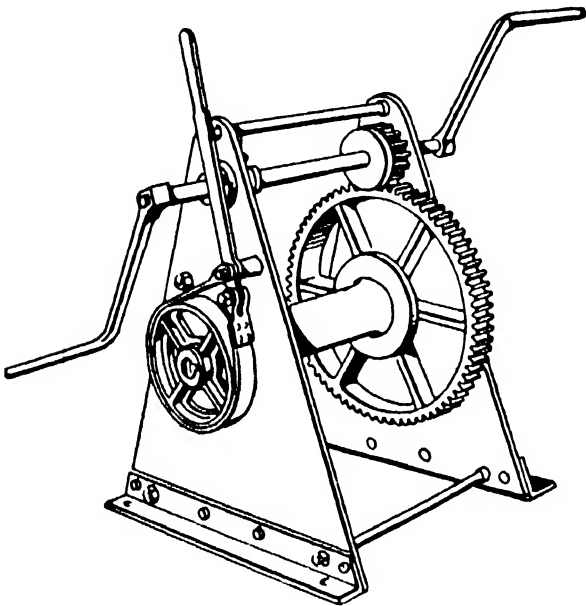
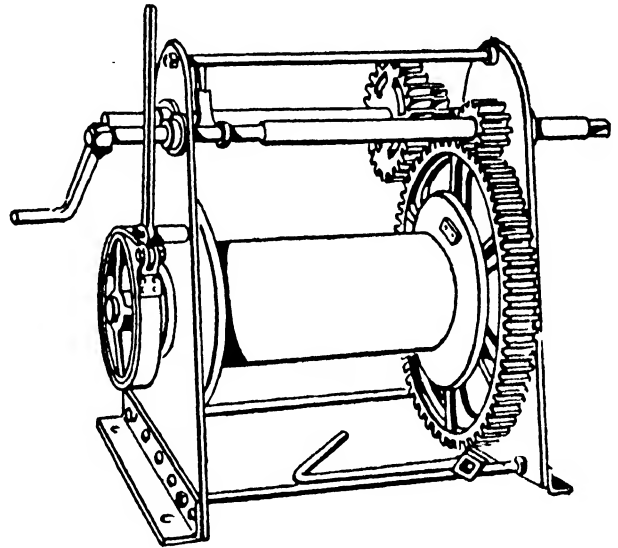

FIG. 10.—Winch, Single-gearred.
FIG. 11.—Winch, Double-gearred.
**The Winch.**—The hoisting gear of the erector when rope blocks are used, to lift parts heavier than men can haul up by hand, is the winch, or as some erectors call it—the crab. It is essentially a crane without a jib, and is mostly used for horizontal hauling as its temporary anchorage is insufficient for anything but that, except when the load to be hoisted is very light. The first illustration (Fig. 10) is of a single purchase winch for use with soft rope, or for the small diameters in wire rope; and the second illustration (Fig. 11) is of a double purchase winch, specified for use with wire rope. The difference is mainly in the diameter of the barrel, as may be noted—the purchase relating to the gears by which the power is developed. Classification is made by the ratios of the gears.